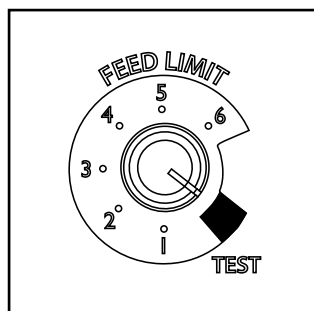

Figure 4.2
3. For your first fire it may be necessary to purge the auger system by putting the feed adjuster knob to "Test" prior to starting the unit. Figure 4.2. This insures that plenty of fuel enters the burn pot for proper ignition.